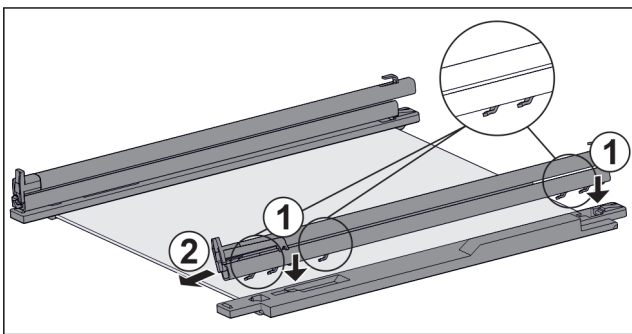

Fig. 160 Glass shelf with rails and retaining parts
- ▶ Place rail hooks onto the openings of the **left** retaining part. Fig. 160 (1)
- ▶ Push rail forwards. Fig. 160 (2)
- ▶ Place rail hooks onto the openings of the **right** retaining part. Fig. 160 (1)